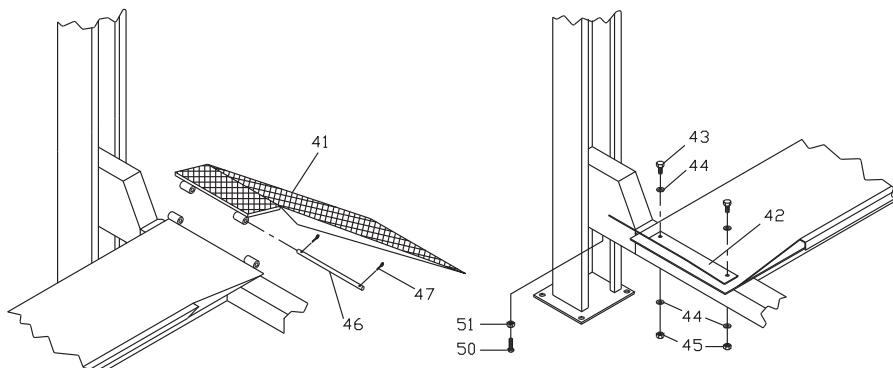

Fig.56 Securing the vehicle ramps and wheel stops
The vehicle ramps (pos.41, fig.56) and the wheel stops (42) can be fitted on either end of platforms (7 - 8) according to the user's requirements.